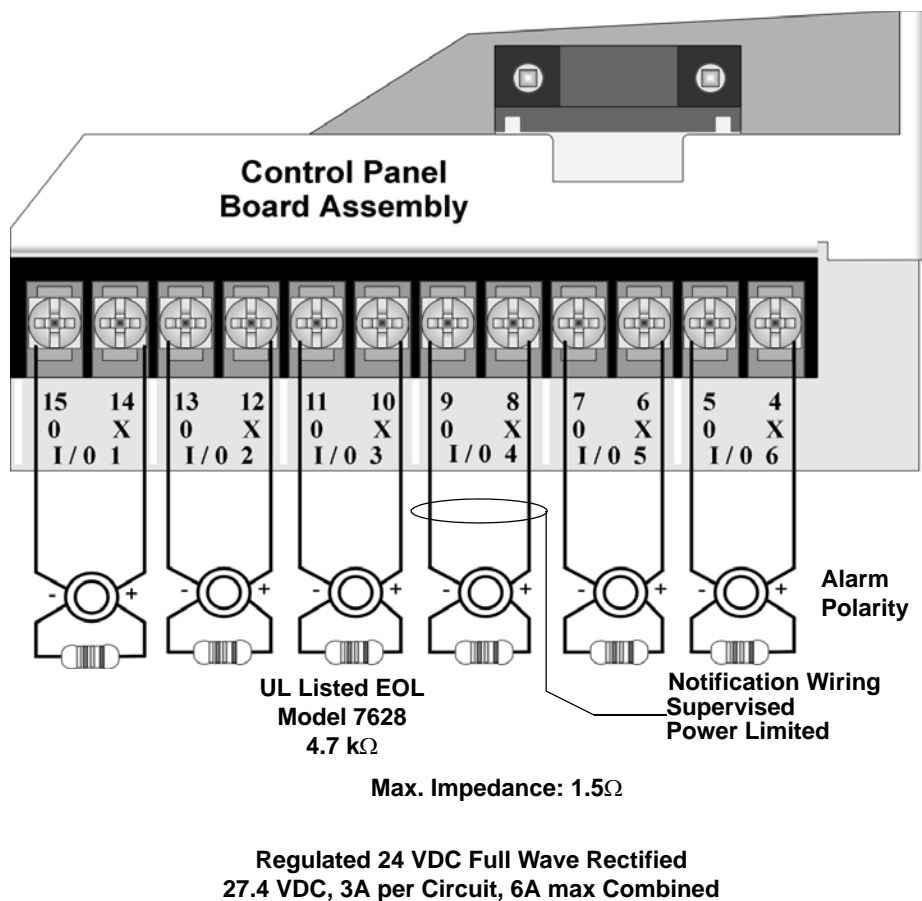

Figure 4-30 Class B Notification Appliance Circuit Wiring
1. Wire Class B Notification appliances as shown in Figure 4-30.